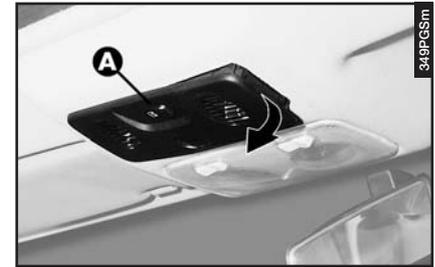

fig. 132
– Apply leverage to the points indicated by the arrows and remove the plate with switch (**A-fig. 132**).